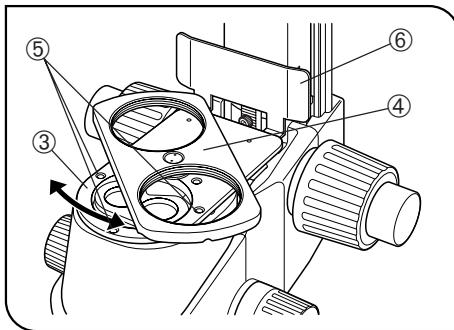

Fig. 28
4. Place the revolving nosepiece mount ③ (with its objective mounts ④ facing upward) where the objective mount has been by aligning the screw holes.
Using the Allen wrench (for M3 screws), clamp the revolver mount with the provided three clamping screws (M3, 6 mm long) ⑤. (Fig. 28)
★As the screw holes may be hidden behind the objective mounts ④, clamp the nosepiece mount while rotating it. (Fig. 28)
6. Attach two objectives onto their respective objective mounts ④ by screwing. (Fig. 28)